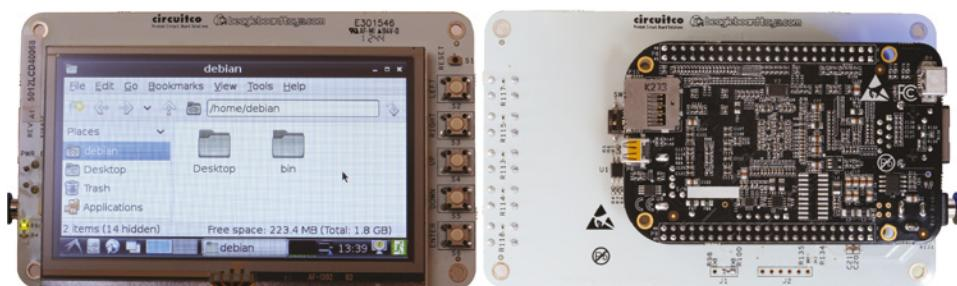

Figure 1-11: The LCD4 cape (top and bottom view)
Some capes use a significant number of pins. For example, you will look at the LCD4 cape in Chapter 13. The LCD4 cape uses the P8 header pins 27 through 46 and some of the analog inputs for its buttons and resistive touch interface. If you are using the eMMC for booting the BBB, then few pins remain for GPIO use. In addition, the LCD cape does not carry forward the pin headers. Figure 1-11 shows two views of this cape when connected to the BBB, running the standard Debian Linux distribution. Similar issues arise with other capes.
- The LCD capes are available in different sizes: 7" (800×480), 4" (480×272), and 3" (320×240), with the 4" version captured in Figure 1-11. These have resistive touch screens, meaning you use a stylus (or fingernail) to interact with the screens. This is different than the capacitive touch screens on recent phones/tablets. The Manga Screen 2 is a HDMI-compatible multi-touch LCD screen alternative that is available in a 4.8" (720p) or 5.9" (1080p) version. See tiny.cc/beagle108.